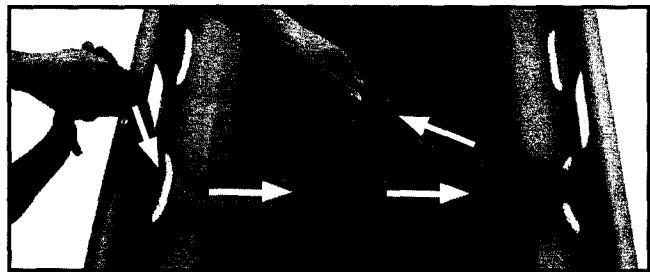

Figure 17 - Model 71-M -Style Restraint Components
1. Pass the strap downward between the rope and the stretcher at the selected attachment point, then up between the rope and the stretcher at the corresponding attachment point on the opposite side of the stretcher (Figure 17).